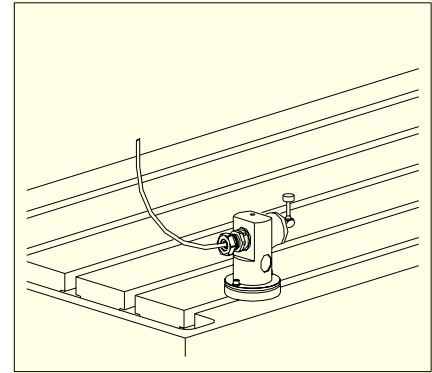

Figure 1 Mount touch probe at the front left corner of the table.
1. Mount the touch probe onto the front left corner of the table (See Figure 1).